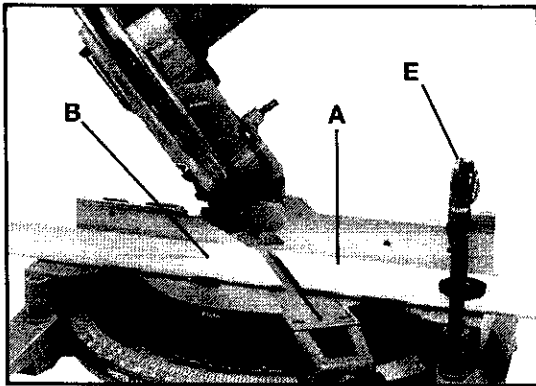
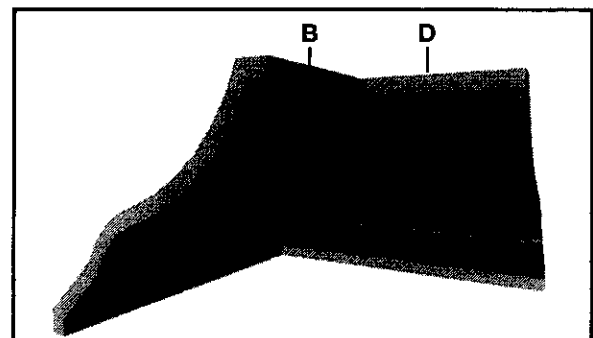

Fig. 42
Fig. 45
3. Place the crown moulding on the table with the **CEILING EDGE** of the moulding against the fence, and make the cut, as shown in Fig. 42.
NOTE: The piece of crown moulding used for the outside corner will always be on the right hand side of the blade, as shown at (A) Fig. 42. The piece of crown moulding used for the inside corner will always be on the left hand side of the blade, as shown at (B) Fig. 42. Note that the accessory work clamp (E) is being used to hold the workpiece in position.
7. Fig. 45 illustrates the two inside corner pieces; (1) being the piece cut at (B) Fig. 42, and (2) being the piece cut at (A) Fig. 42.